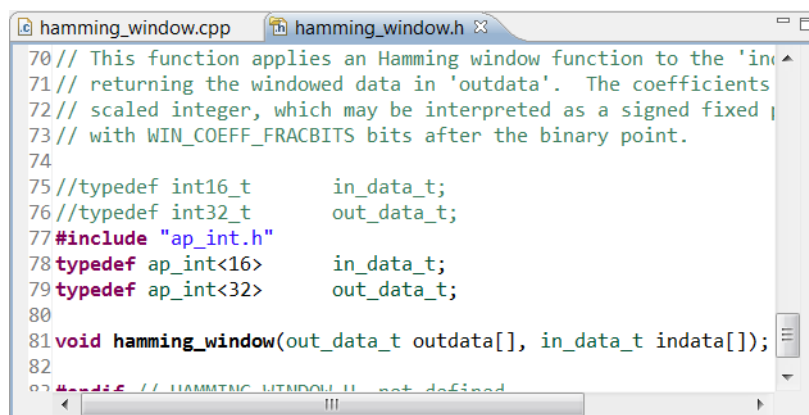

Figure 3-18: Type Definitions for C Validation Lab 3
6. Scroll down to view the type definitions (Figure 3-18).